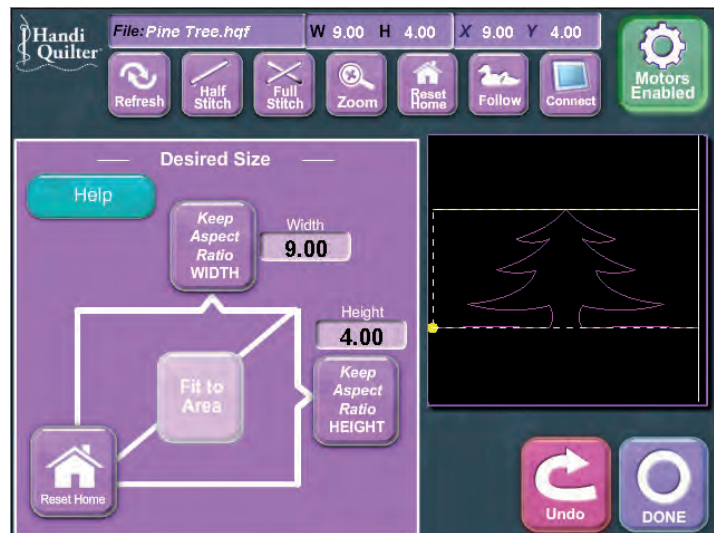

Figure 12
5. Verify that the pattern is now the correct size by looking at the top of the screen. The “W” and “H” values should now match the “Width” and “Height” values that were just measured (Figure 12). As an alternative, if the desired pattern dimensions are already known, the user can manually enter those values into the “Height” and “Width” boxes by pressing the number boxes and entering the values with the pop-up number pad.